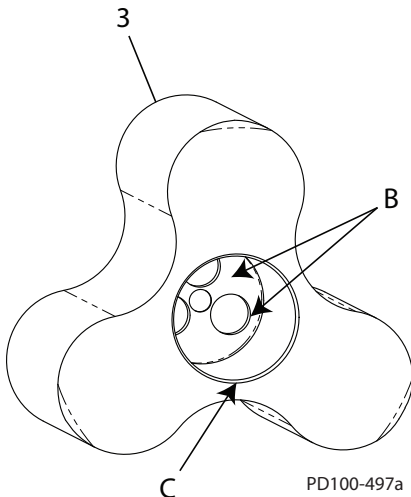

Figure 55 - Rotor Detail
1. The shaft bore of the rotors (Figure 55, item 3) must be clean and free of burrs and debris (Figure 55, item B). The edge chamfer (item C) must be free of burrs to prevent damage to the o-rings.